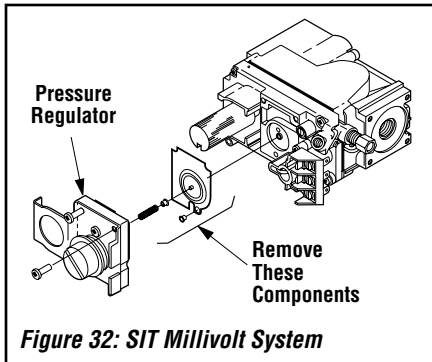

Figure 32: SIT Millivolt System
Step 5. SIT Millivolt Valve: Refer to *Figure 32* and the instructions provided with the kit.